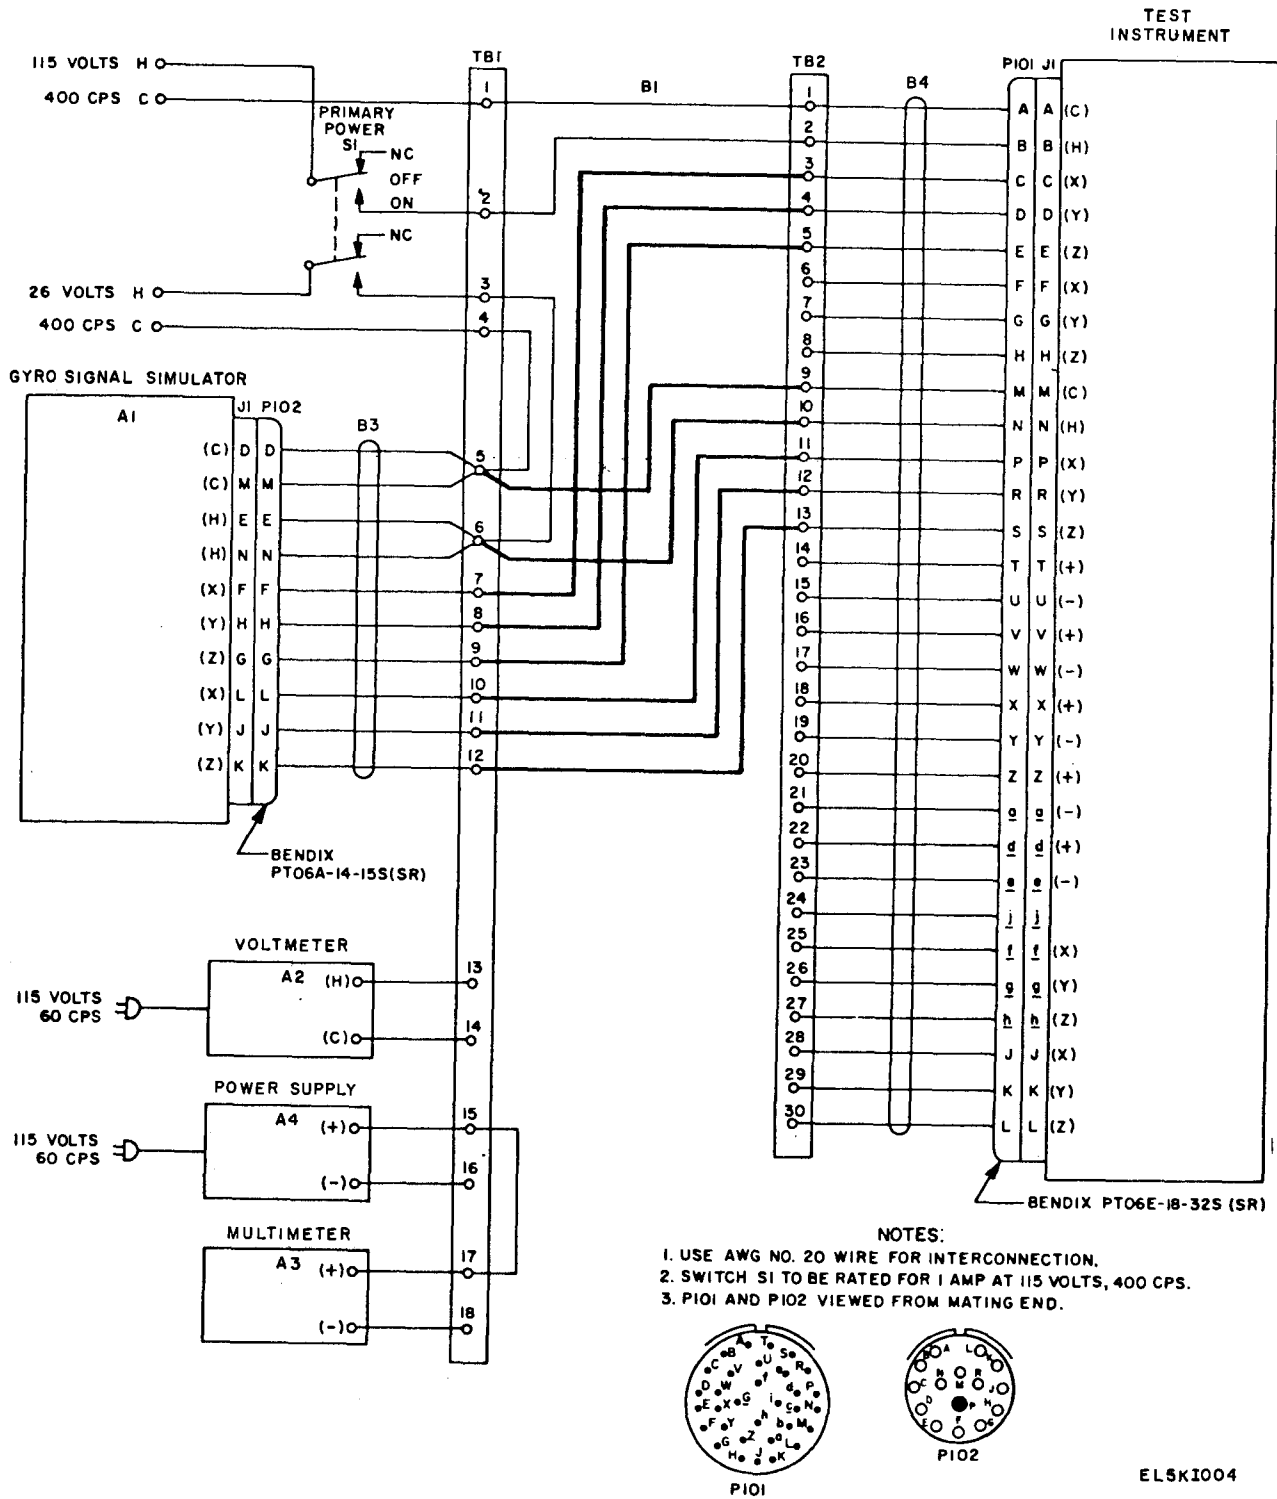

Figure 4. Radio bearing pointer test setup.
13. Tests of Radio Bearing Pointer (RBP). a. Connect equipment as shown in figure 4.
18. Tests of Annunciator (M5). a. Reconnect equipment as shown in figure 4.